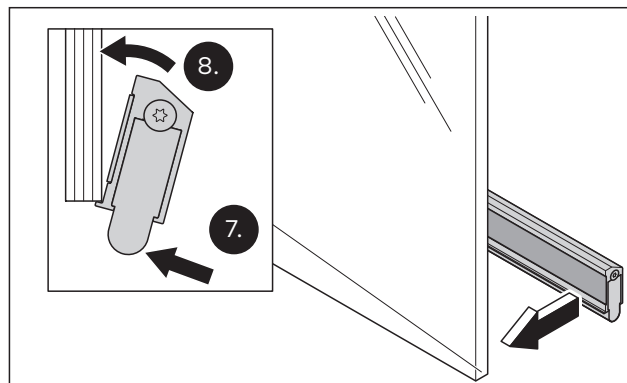

Fig. 15 Attach the drop-down seal to the hinge side
7. Align the drop-down seal with the lower glass edge of the door (Fig. 15).